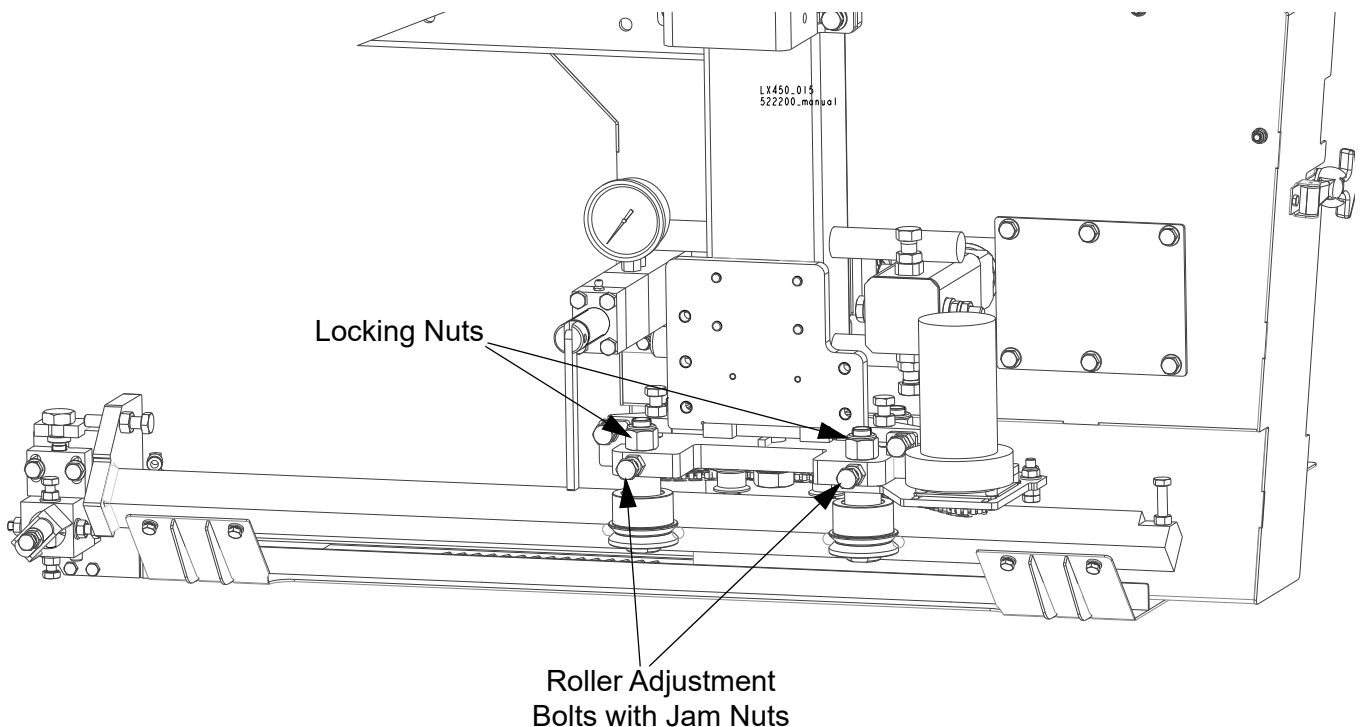

FIG. 5-17
**See Figure 5-17.** Loosen the locking nuts. Next loosen the jam nuts and turn the adjustment bolts in to tighten the blade guide arm rollers. Re-tighten the jam and locking nuts.